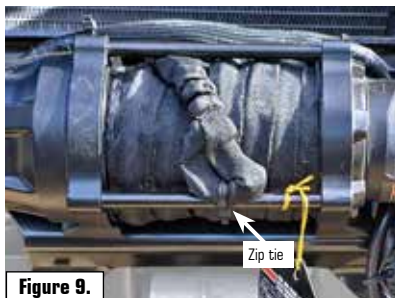
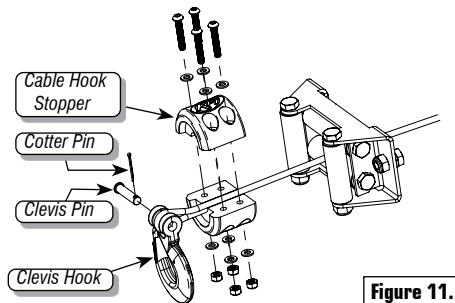
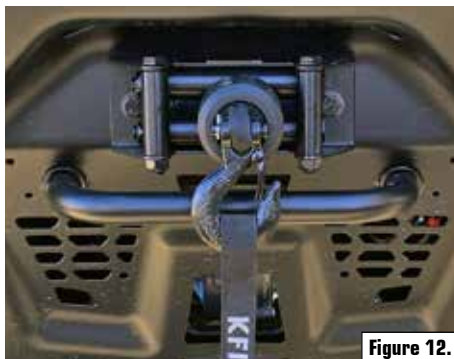

Figure 9.
Figure 11.
Figure 12.
14. Assemble Cable Hook Stopper and Clevis Hook to the Synthetic Cable per Figure 11. Bend Cotter Pin around Clevis Pin to secure in place. Apply Hand Saver Strap to Clevis Hook.
17. Route power harness thru opening [K], secure with push in zip tie at starred location in Figure 9. Bring leads near OEM busbar [M].
18. Attach the red power harness Positive (+) lead to the OEM busbar [M] Positive (+) post. See Figures 9 & 10. Attach power harness Negative (-) lead to busbar Ground (-) post.
19. Locate the dashboard center section, most easily identified by two cupholders, see Figure 11.
20. Gain access to the center wiring grommet [P] (see Figure 12) by pulling out two plastic rivets [N] (Figure 11) and removing the plastic center section. Wiring from the Switch Harness is routed from the dashboard through the wiring grommet [P], into the front compartment that is shown in (Figure 9).